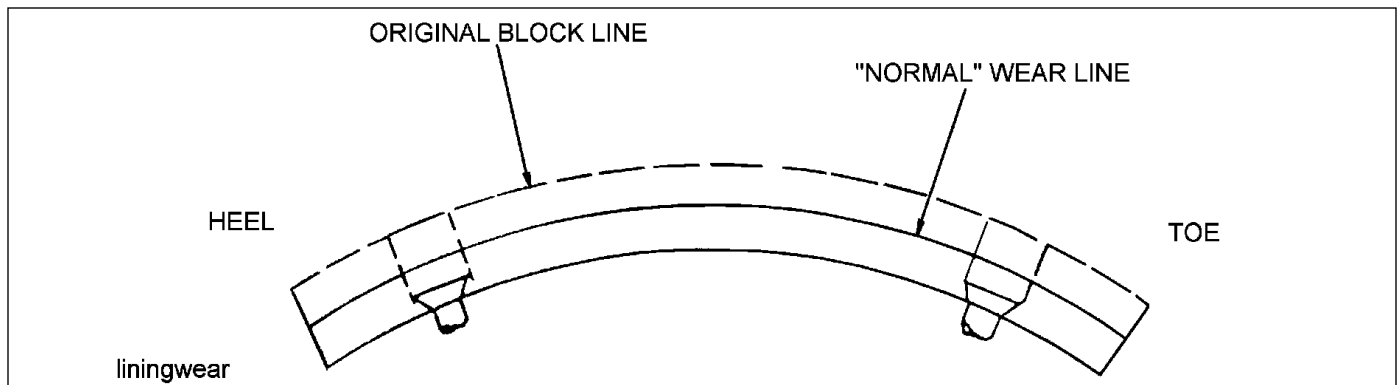

Figure 4-12: Brake Lining Wear
3. Check brake linings for excessive wear or distortion (**See Figure 4-12.**)
The brake assemblies should be inspected and adjusted every 2,000 miles or monthly. Examine the brake linings visually to locate the lining showing the greatest amount of wear. The wheel and drum should be removed and the linings replaced if the thinnest portion of the lining is 3/8 in. (9.5 mm) or less. Do not allow the linings to wear thin enough that the lining rivet contacts the drum. (See Figure 4-12.)